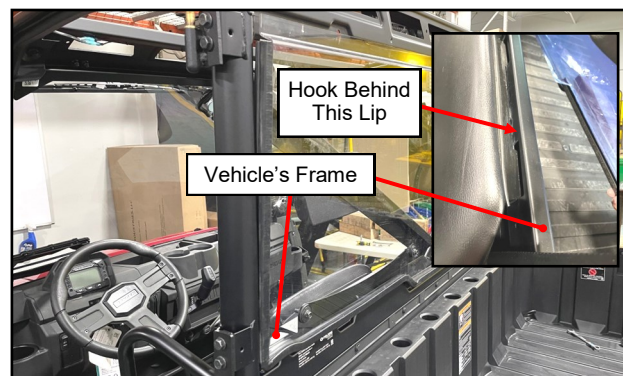

Fig. 1.2a (Hook Rear Panel onto Frame)
- 1.2 Per figures 1.2a and 1.2b, install rear panel with brackets onto the vehicle's frame behind the seat back. Then flex the rear panel and hook it around the rear panel header. If the rear panel is loose in the vertical position, adjust the lower mounting brackets to take up the vertical play.